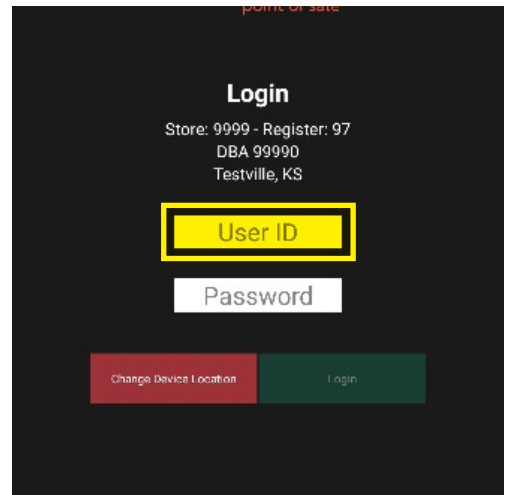

Figure 27
12. In the User ID field enter the OPERATOR USER ID# on your CloudSent Log On Sheet found in the Red Bag (Figure 27).